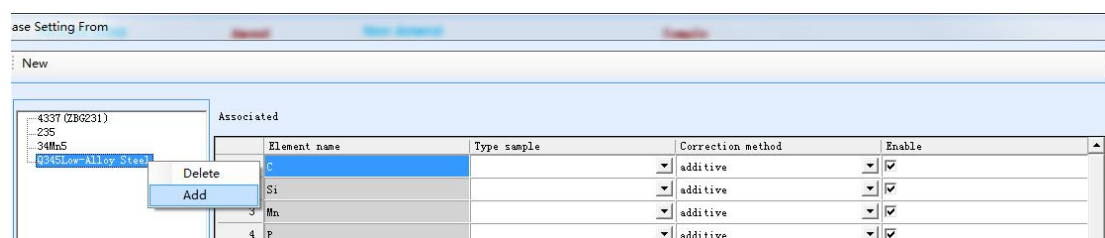

Figure 4-24 Adding a sample
Step 3 Right-click on the sample and select “Add”, as shown in Figure 4-24: